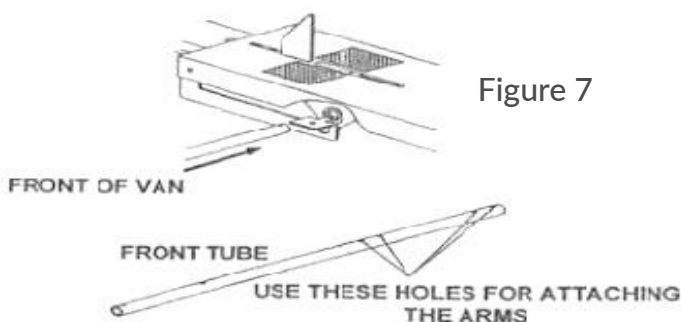

Figure 7
8. Locate Front Tube, two Nylon Grommets, four 5/16-18x 1.50" Hex Head Screws and four 5/16-18 Lock Nuts. Attach Front Tube to arms through holes shown by torquing the fasteners to 20 Nm (See Figure 7). Repeat the procedure from the Rear Tube Assembly and Rear Bow Assembly.